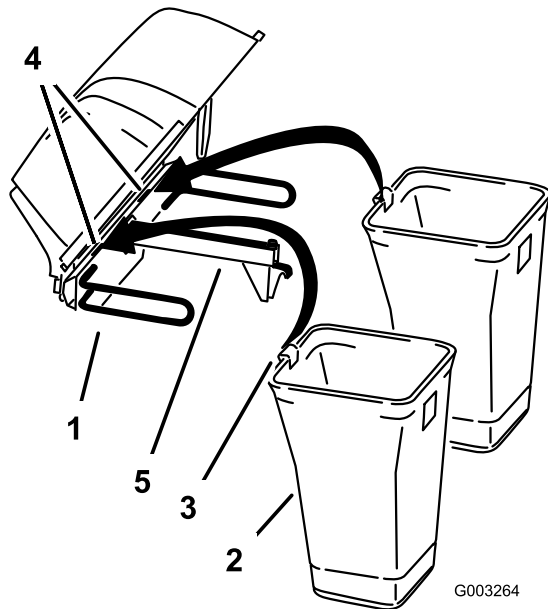
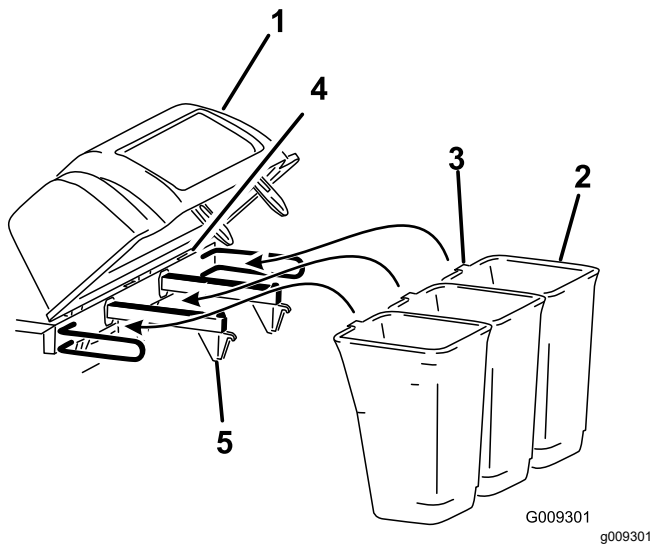

Figure 8
Figure 9
- Install the bag tab into the notch in the hood assembly (Figure 8 or Figure 9).